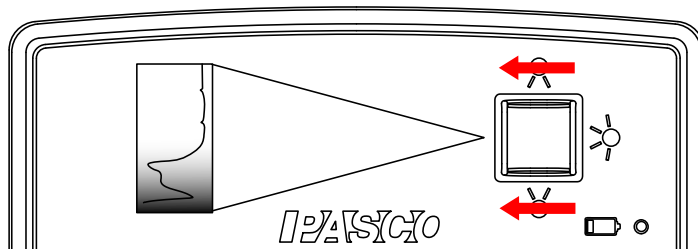

Figure 1: Correct orientation of arrows on cuvette-shaped base.
The Fiber Optic Cable's cuvette-shaped base features arrows on its label. When inserting the base into the cuvette opening on the Wireless Spectrometer, orient the base so that the probe orientation arrows point towards the sensing element, as represented in Figure 1.
3. Insert the base into the cuvette opening on the Wireless Spectrometer. Make sure the probe is oriented so that the arrows on the base face towards the sensing element, as shown above in Figure 1.